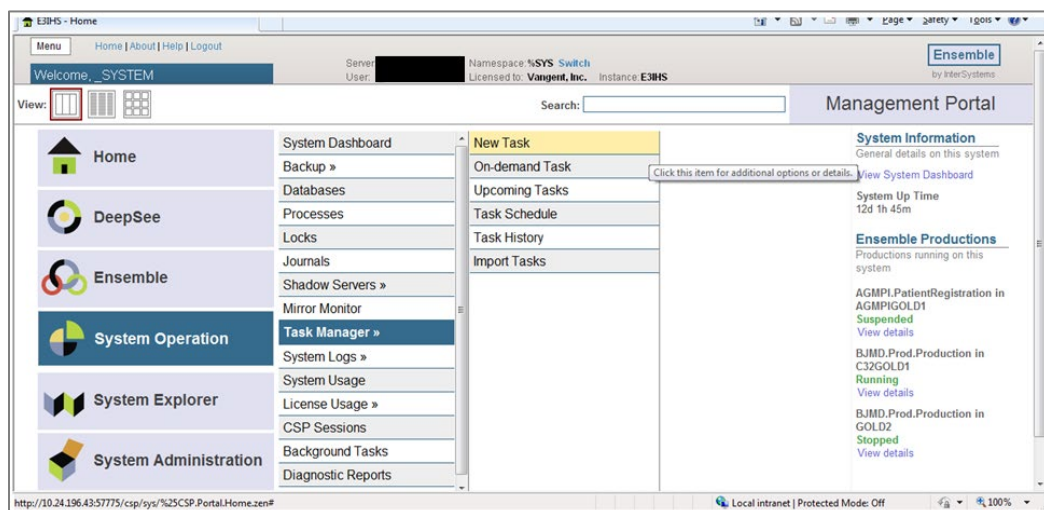

Figure 7-2: Task Manager menu
1. On the Management Portal page, click Task Manager to display the Task Manager menu, as shown in Figure 7-2.